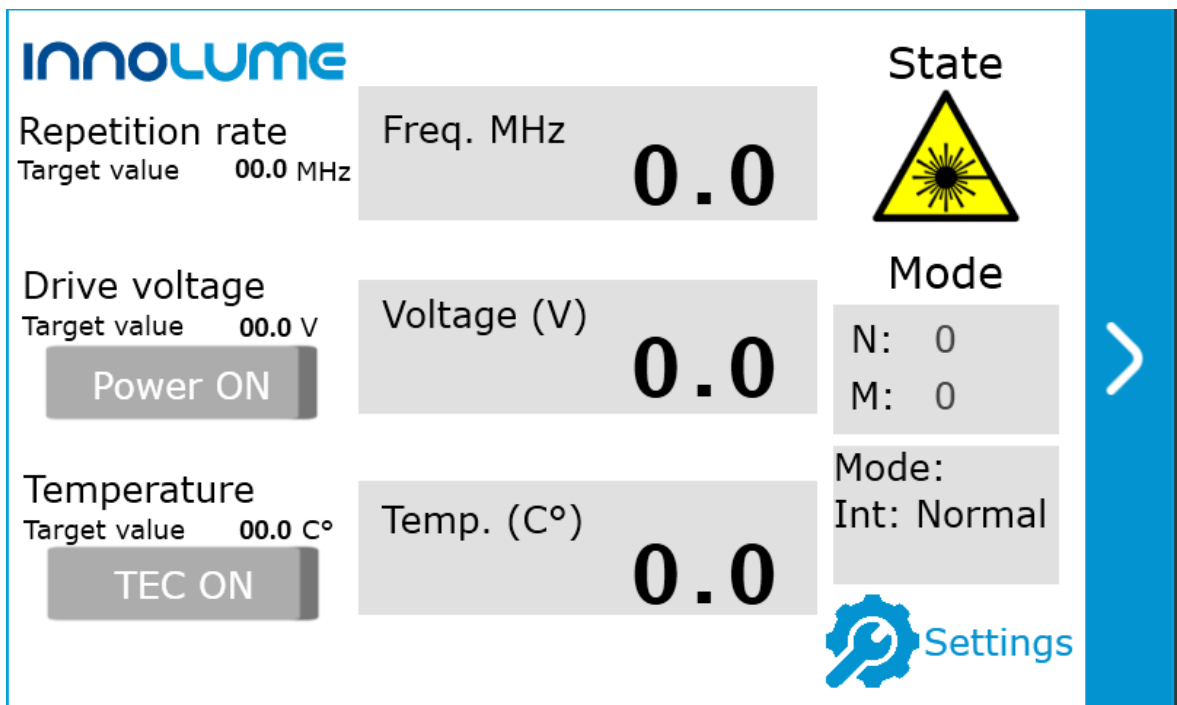

Figure 23 – Emission on state
11. Tap on “Power ON” button to turn on the laser diode emission. The button will light up green, a laser light icon will appear in the state column on the right side of the screen (fig. 23).